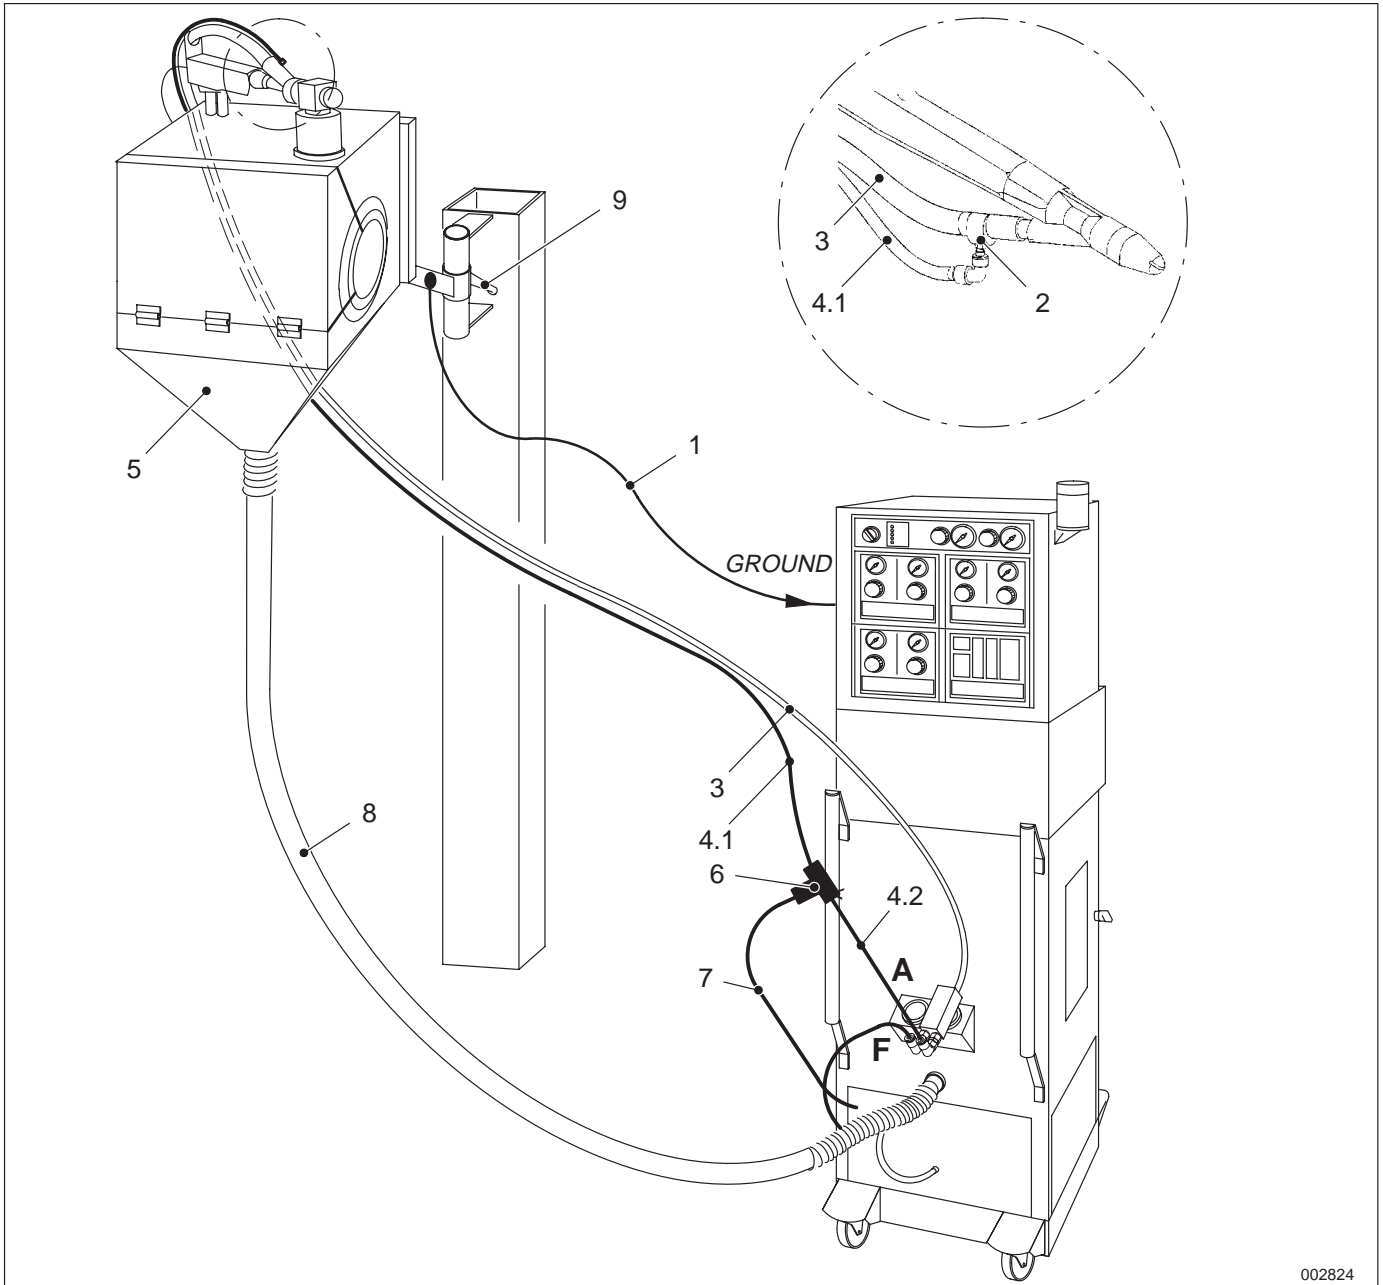

Fig. 4
3. Detach chamber (5, Fig. 4) from the system (9, Fig. 4) and then attach it to the separate frame.
4. Adjust the length of the included powder recovery hose (8, Fig. 4) so that it is as short as possible, then attach it to the chamber and the pump for powder recovery.
5. If the grounding cable (1, Fig. 4) has been disconnected: Ground frame.
7. Remove standard adapter (1, Fig. 4) from adapter kit P/N 157 094.
8. Insert adapter (2, Fig. 4) P/N 140 907 in adapter kit.
10. Adjust the length of the included powder hose (3, Fig. 4) such that it is as short as possible, then attach it to the gun and the powder pump.
11. Disconnect air hose (7, Fig. 4) from connection A on the pump.
12. Connect air hose section (4.1, Fig. 4) to gun.
13. Connect hose pieces (4.1, 4.2, Fig. 4) to Y-piece (6, Fig. 4).
14. Connect hose piece (4.2, Fig. 4) to connection A on the pump.
15. Connect air hose (7, Fig. 4) to Y-piece.